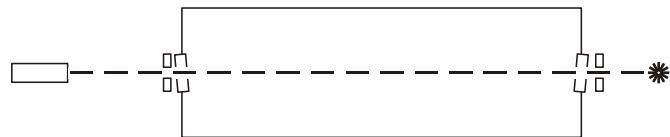

Figure 100: Direct alignment laser through alignment apertures
3. Adjust the alignment laser until the beam exactly passes through both holes in the alignment apertures (see Figure 100).